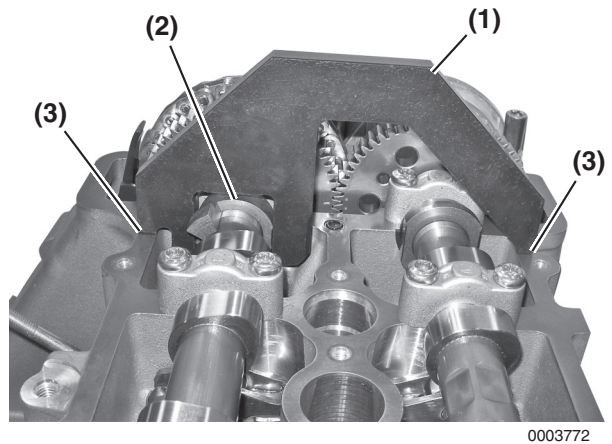

Figure 5-74
5. Install special tool OEM No. 11 6 321 (**Figure 5-74, (1)**) on the flats of the intake camshaft (**Figure 5-74, (2)**). The tool must set firmly on the machined gasket surface (**Figure 5-74, (3)**) on each side of the cylinder head. If it does not, the timing must be adjusted. See *Adjust Camshaft Timing* on page 5-45.